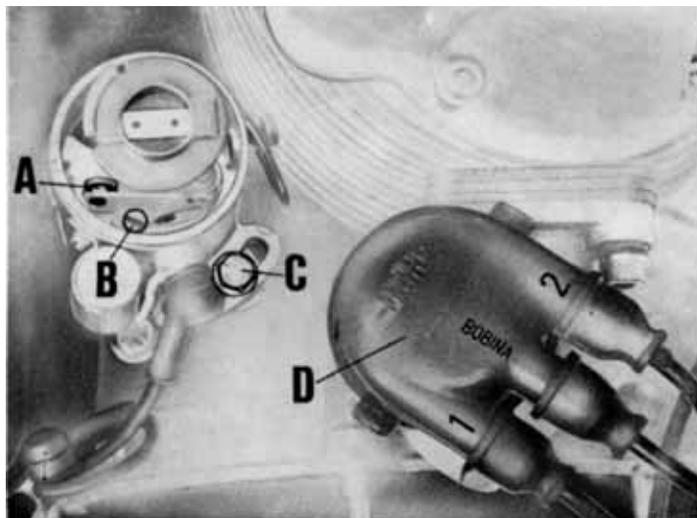

Fig. 19
Distributor (See fig. 19)
Remove generator belt cover. Check that the distributor contact points are 0.42-0.48 mm. (.016"-.018") apart. Ensure the left cylinder (2) is on its compression stroke i.e. with both valves closed. Rotate the generator pulley on the crankshaft till the slot (fig. 19/1) is opposite mark A traced on the timing cover.
If the points start to open before or after the mentioned point, slacken distributor securing bolt C (fig. 19) and turn the distributor to the right or left to the position where the points start opening at the proper time.